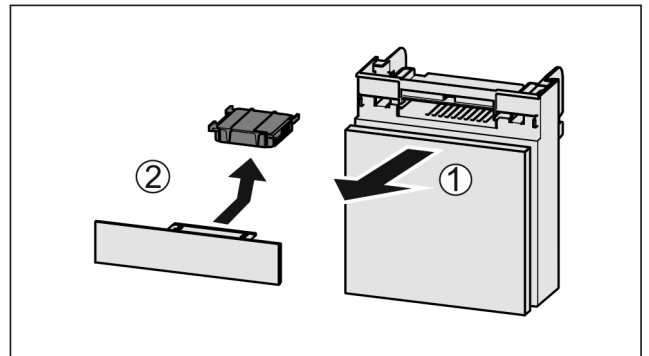

Fig. 195
- ▶ Pull out the compartment Fig. 195 (1).
- ▶ Remove the carbon filter Fig. 195 (2).